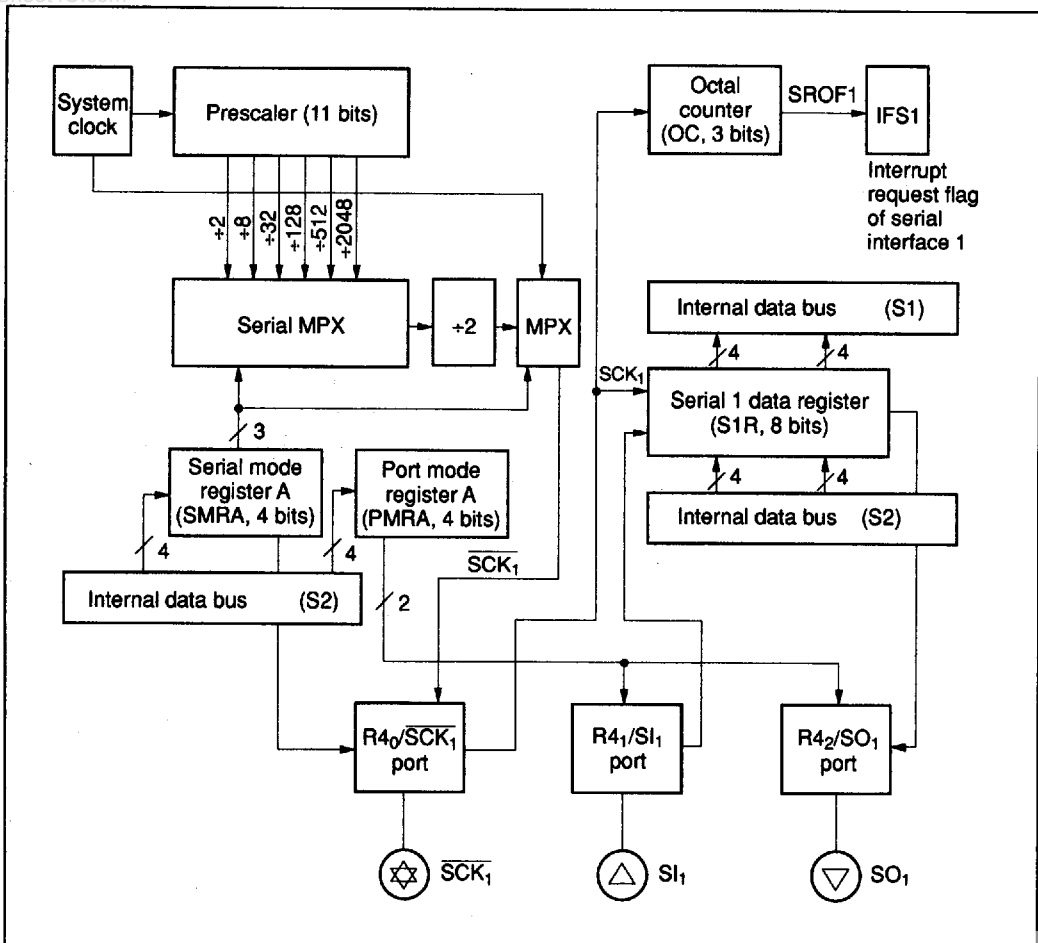

Figure 32 Serial Interface 1 Block Diagram
**Serial Interface 1:** Used to serially transmit and receive 8-bit data. It consists of serial 1 data register (S1R), serial mode register A (SMRA), port mode register A (PMRA), an octal counter, and a multiplexer as shown in figure 32. The  $R4_0/\overline{SCK}_1$  pin and the transmit clock are controlled by writing data to SMRA. The transmit clock shifts the contents of S1R, which can be read and written to by